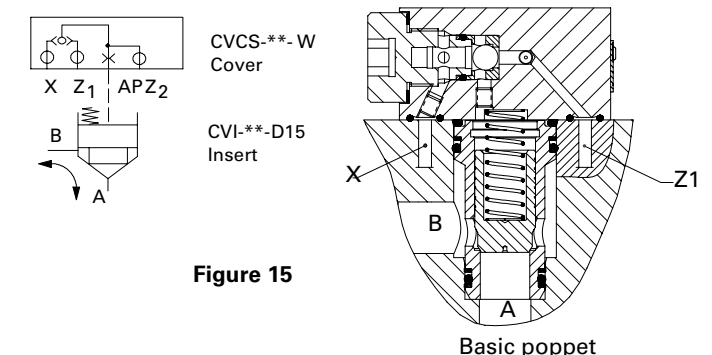

Figure 15
The shuttle function is obtained with a model W cover and D15 insert (Figure 15). The shuttle directs the higher of the pressures at the X and Z1 ports to the spring area (AP) of the insert poppet to close it. The Z2 port can be used as a convenience to operate another cartridge simultaneously.